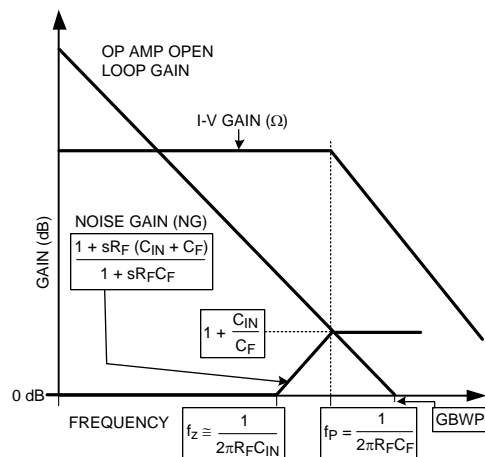

Figure 16. Transimpedance Amplifier Graphical Stability Analysis and Compensation
The diode capacitance (C_D) along with the input capacitance of the LMH6601 (C_A) has a bearing on the stability of this circuit and how it is compensated. With large transimpedance gain values (R_F), the total combined capacitance on the amplifier inverting input ($C_{IN} = C_D + C_A$) will work against R_F to create a zero in the Noise Gain (NG) function (see Figure 16). If left untreated, at higher frequencies where NG equals the open loop transfer function there will be excess phase shift around the loop (approaching 180°) and therefore, the circuit could be unstable. This is illustrated in Figure 16.
Figure 16 shows that placing a capacitor, C_F , with the proper value, across R_F will create a pole in the NG function at f_p . For optimum performance, this capacitor is usually picked so that NG is equal to the op amp's open loop gain at f_p . This will cause a "flattening" of the NG slope beyond the point of intercept of the two plots (open loop gain and NG) and will result in a Phase Margin (PM) of 45° assuming f_p and f_z are at least a decade apart. This is because at the point of intercept, the NG pole at f_p will have a 45° phase lead contribution which leaves 45° of PM. For reference, Figure 16 also shows the transimpedance gain (I-V (Ω))
The op amp noise voltage will be gained up in the region between the noise gain's "zero" and its "pole" (f_z and f_p in Figure 16). The higher the values of R_F and C_{IN} , the sooner the noise gain peaking starts and therefore its contribution to the total output noise would be larger. It is obvious to note that it is advantageous to minimize C_{IN} (e.g. by proper choice of op amp, by applying a reverse bias across the diode at the expense of excess dark current and noise). However, most low noise op amps have a higher input capacitance compared to ordinary op amps. This is due to the low noise op amp's larger input stage.